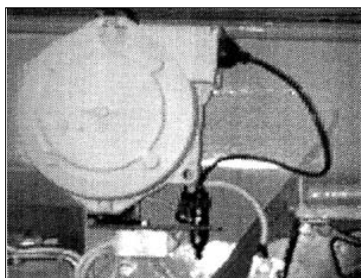

fig. 32
- Insert the flying drive in the pin placed in the cable winder. (Fig. 32).